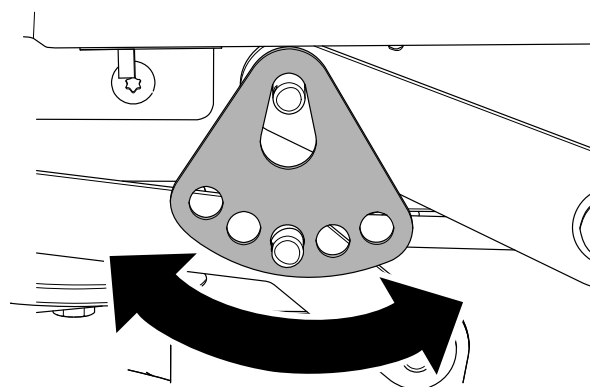

Figure 64
- Rotate the height-of-cut plate to a different hole so that it supports the weight of the mower deck after you install the plate (Figure 64).
- Install the washer and hairpin cotter (Figure 64).